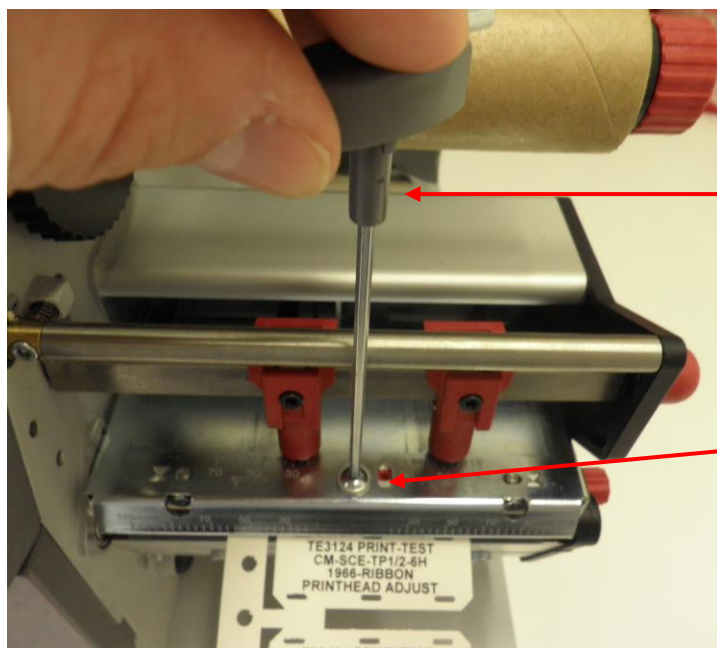

Figure 6- Printhead loosening
- 3.4.** To align the printhead, remove the ribbon from the printer and loosen the printhead retaining screw marked “A” shown in Figure 6 with the tool provided with the printer shown in Figure 6.